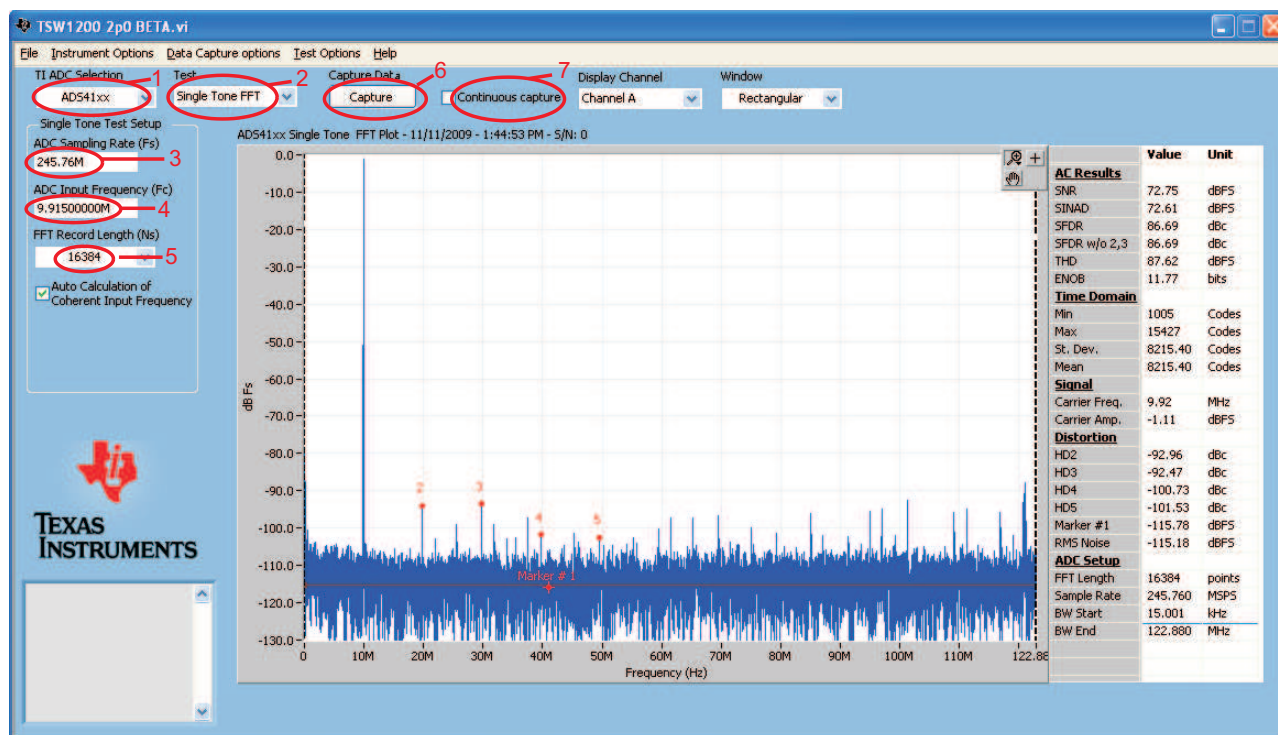

Figure 9. TSW1200 GUI Introduction
4. Configure the TSW1200 (see Figure 9).